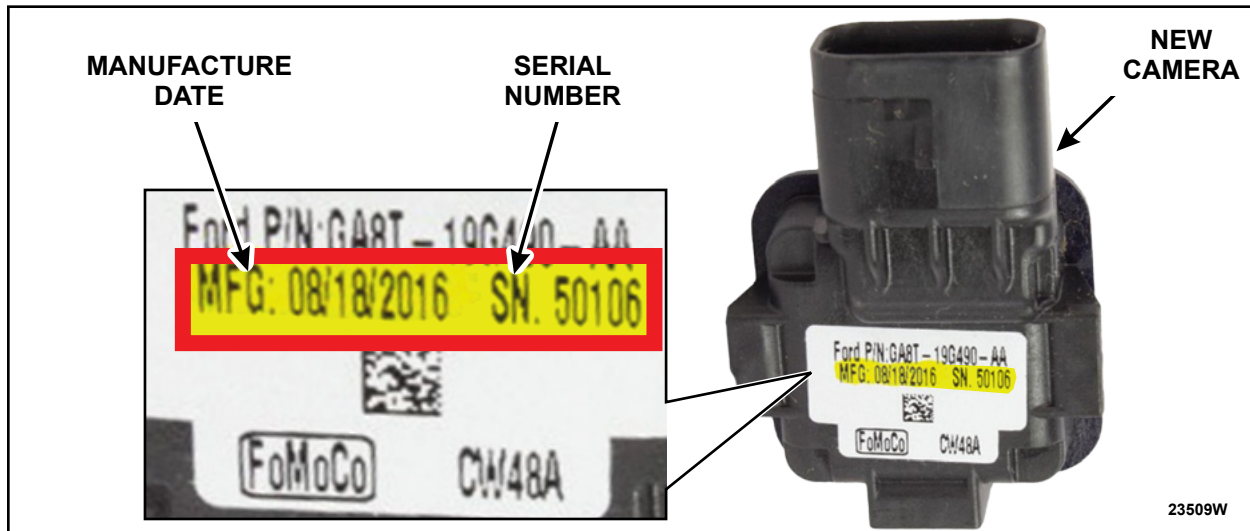

FIGURE 15
2. Write down and include the new camera manufacture date and serial number onto the repair order. The new camera manufacture date serial number should also be included in the warranty claim submission in the technician comments section. See Figure 15.